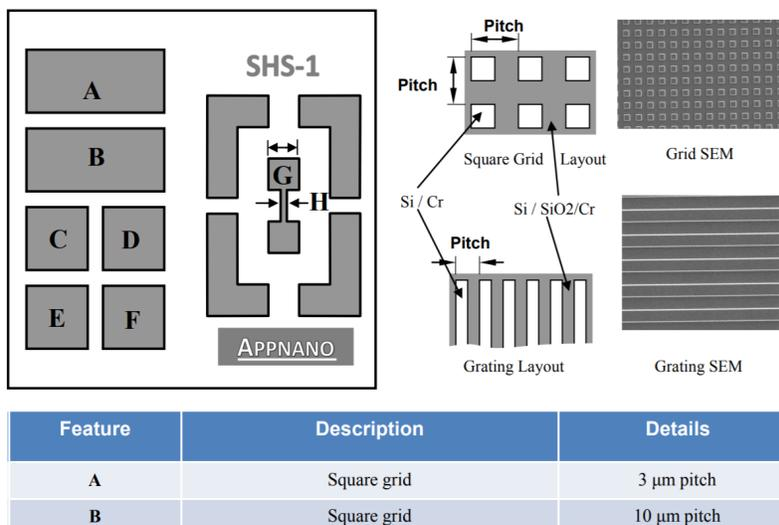

Figure 28: Calibration sample schematic
1. Perform a large enough topography scan of a clean area in Feature B region of the calibration sample. This region contains square pits with  $10\ \mu\text{m}$  lateral pitch and  $102\ \text{nm}$  vertical depth (Fig. 28), so the scan needs to be  $> 20\ \mu\text{m}$  to cover multiple periods (See Fig. 17 for an example). It is helpful to rotate the sample such that the grid is aligned with the scan X/Y direction. Pay attention to Scan Rotation.